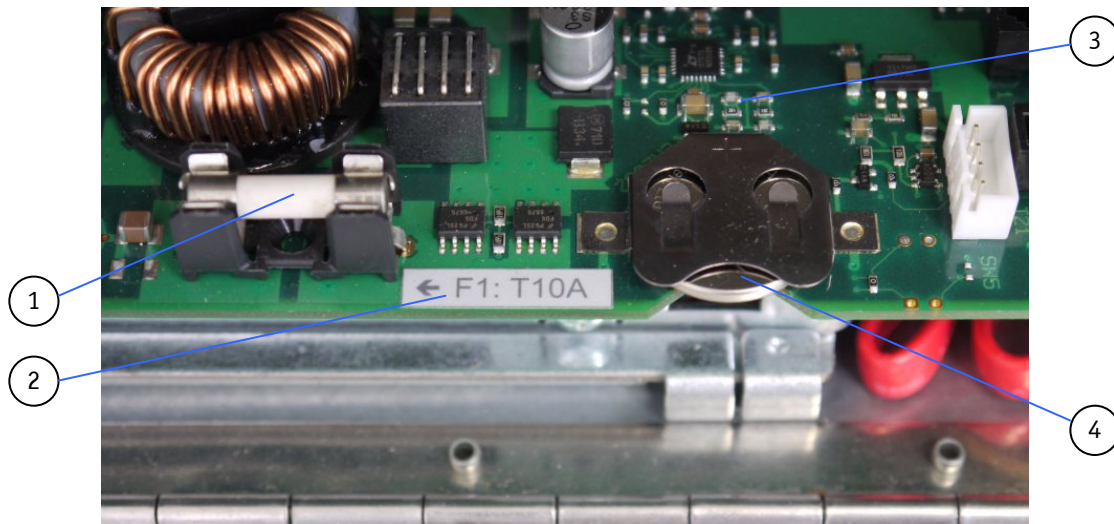

Fig. 17: Fuse, label for fuse value and Lithium battery location
The installed ETX baseboard is fitted with a 10 A time-lag fuse (refer to Fig. 17, pos. 1) that protects the system and its components against over-currents and short-circuits.